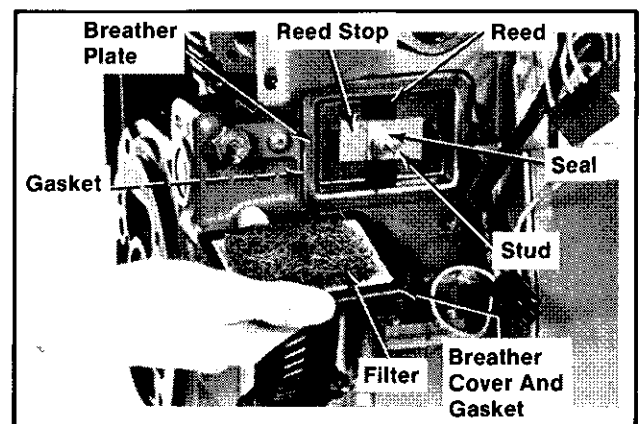

Figure 10B-8. Removing Breather Components.
2. Remove the filter, seal, reed stop, reed, breather plate, gasket, and stud. Refer to Figure 10B-8.